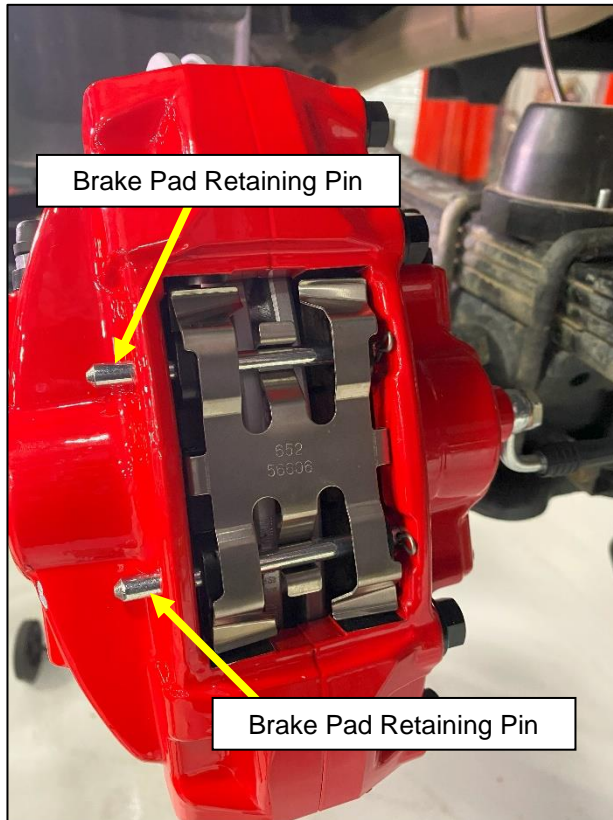

Figure 9
18. Locate (2) two Front Brake Retaining Pins. Insert them from the inside of the Caliper as shown below. They may need to be slightly tapped with a hammer to go through the Caliper. *Figure 9.*